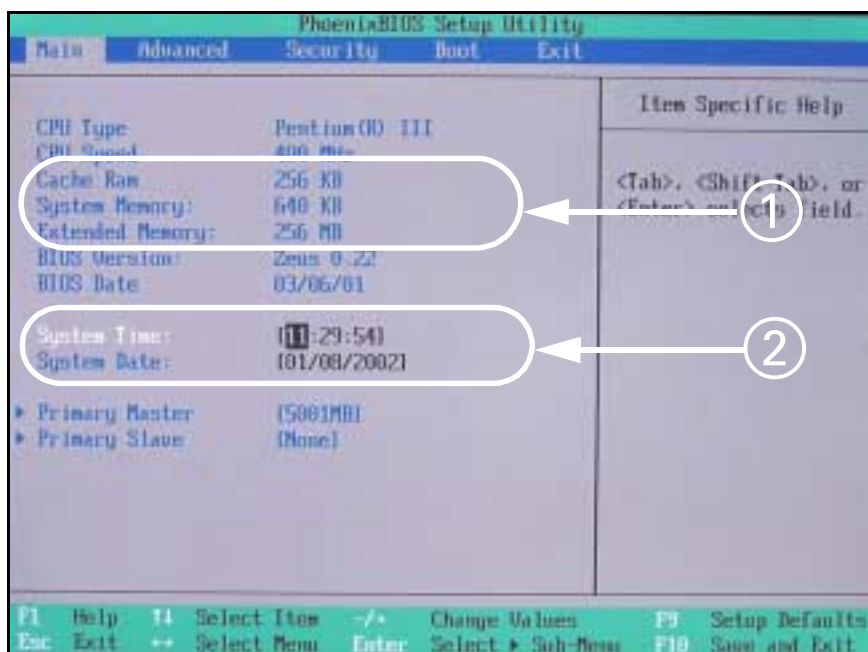

Figure 10-12 PhoenixBIOS Utility Screen
- 4.1) Cache Ram, System Memory and Extended memory are as shown by ① in Figure 10-12.
- 4.2) Primary Master drive capacity is displayed (② in Figure 10-12).